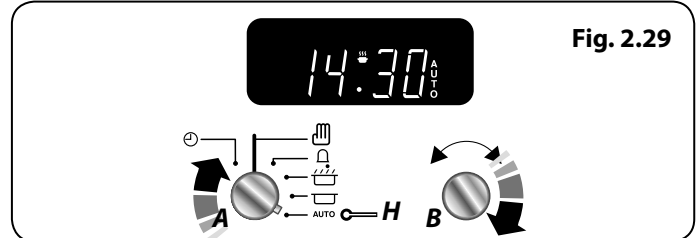

Fig. 2.29
3. Continue to turn the **Adjusting (B)** knob to the amount of time required e.g. 1 minute. The display will show the current time plus the required length of time you have set (**Fig. 2.29**).
4. Turn the **Timer (A)** knob to the **Auto (H)** setting (**Fig. 2.29**). The display will show the current time, the Cooking symbol and the word **'AUTO'** (**Fig. 2.29**).